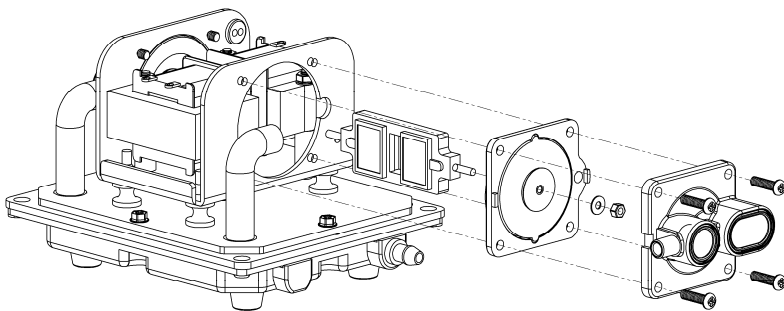

Figure 2
- B. Loosen the four screws and disassemble the parts. (As shown in figure 2)